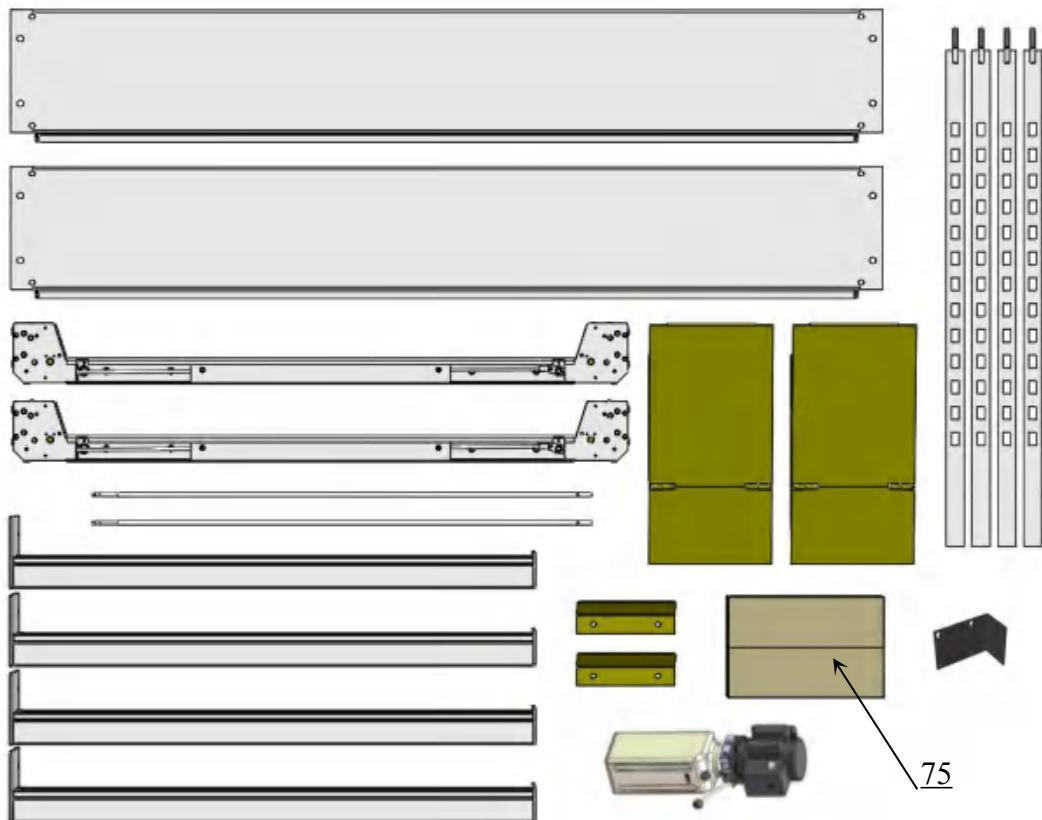

Fig. 11
5. Move aside all the parts to the installation position and check the parts according to the parts list (**See Fig. 11**).